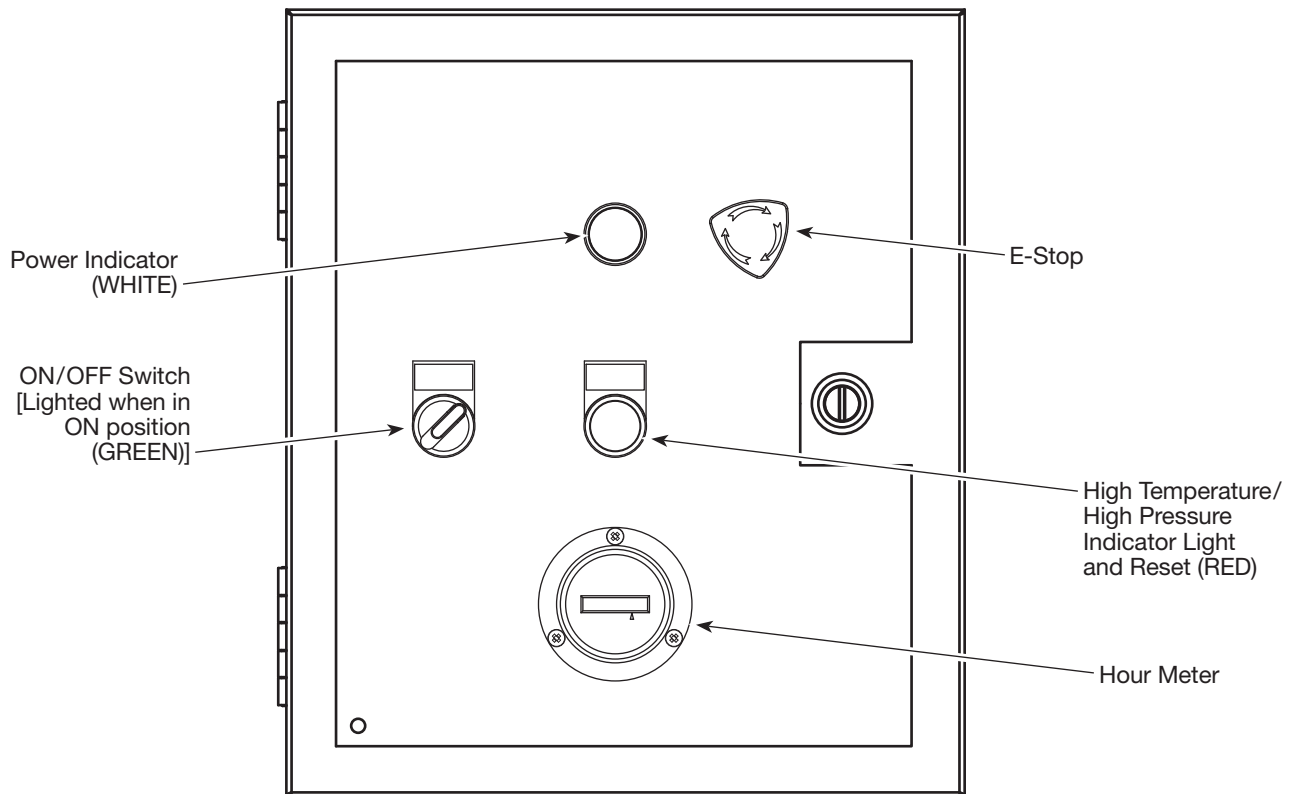

Figure 8 - Control Panel
5. Reset E-Stop switch if needed (see Figure 8).